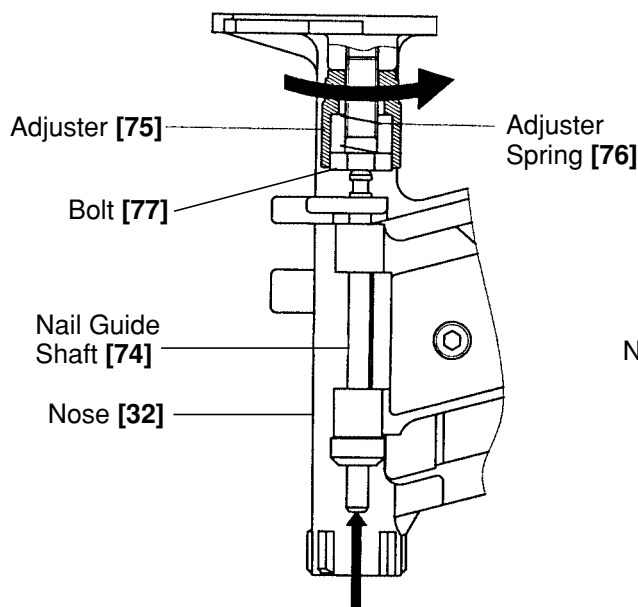

Fig. 20
- Mount the Adjuster [75] before mounting the Nail Guide Shaft [74]. Otherwise the Adjuster [75] cannot be mounted. Mount the Adjuster [75] according to the following procedure (see Fig. 20).
- (I) Mount the Adjuster Spring [76] and the Bolt [77] to the inside of the Adjuster [75].
- (II) Insert the Nail Guide Shaft [74] into the Nose [32]. Pressing the head of the Bolt [77], align the tip of the Bolt [77] with the female screw for mounting the adjuster. Turn the Adjuster [75] clockwise and screw in pulling it toward the tip of the Nose [32].